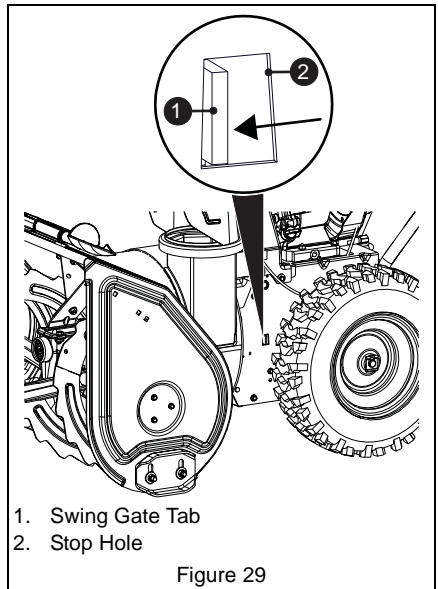

Figure 29
4. With traction clutch disengaged, check that swing gate tab touches the front edge of stop hole. See Figure 29.